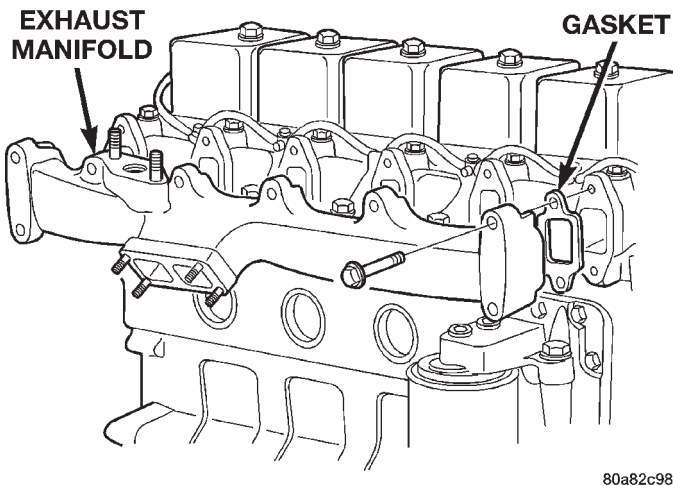

Fig. 46 Exhaust Manifold
- (1) Drain the coolant. DO NOT waste reusable coolant. If the solution is clean, drain the coolant into a clean container for reuse.
- (2) Drain the engine oil. Dispose of the used oil properly.
- (3) Disconnect the radiator and heater hoses (refer to Group 7, Cooling System).
- (4) Remove the turbocharger.
- (5) Remove the EGR tube and gaskets.
- (6) Remove the exhaust manifold (Fig. 46).